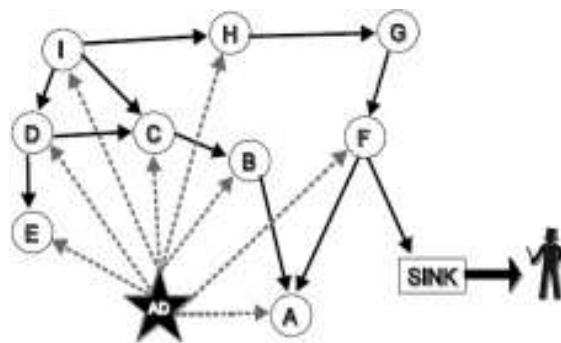

Figure 4.4 Flooding Attacks
- Many protocols require nodes to broadcast HELLO packets to announce themselves to their neighbors, and a node receiving such a packet may assume that it is within (normal) radio range of the sender (Figure 4.4).